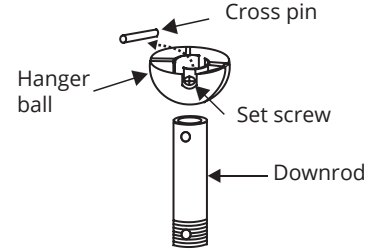

FIGURE 8
1. Take out the set screw located in the hanger ball, lower the hanger ball and remove the cross pin. Remove the hanger ball from the hanger ball/downrod assembly. (Fig. 8)